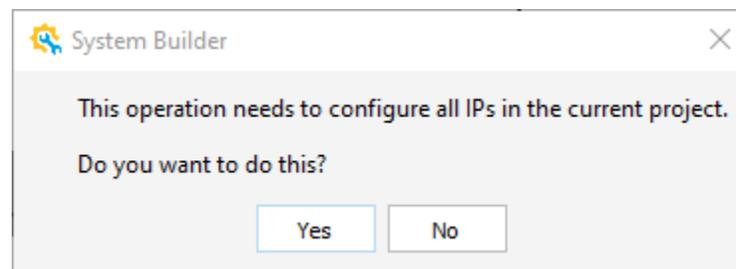

Figure 2.33 System Builder Dialog
3. Click **OK**. The System Builder dialog (Figure 2.33) pops up to show the warning message about configuring all IPs.